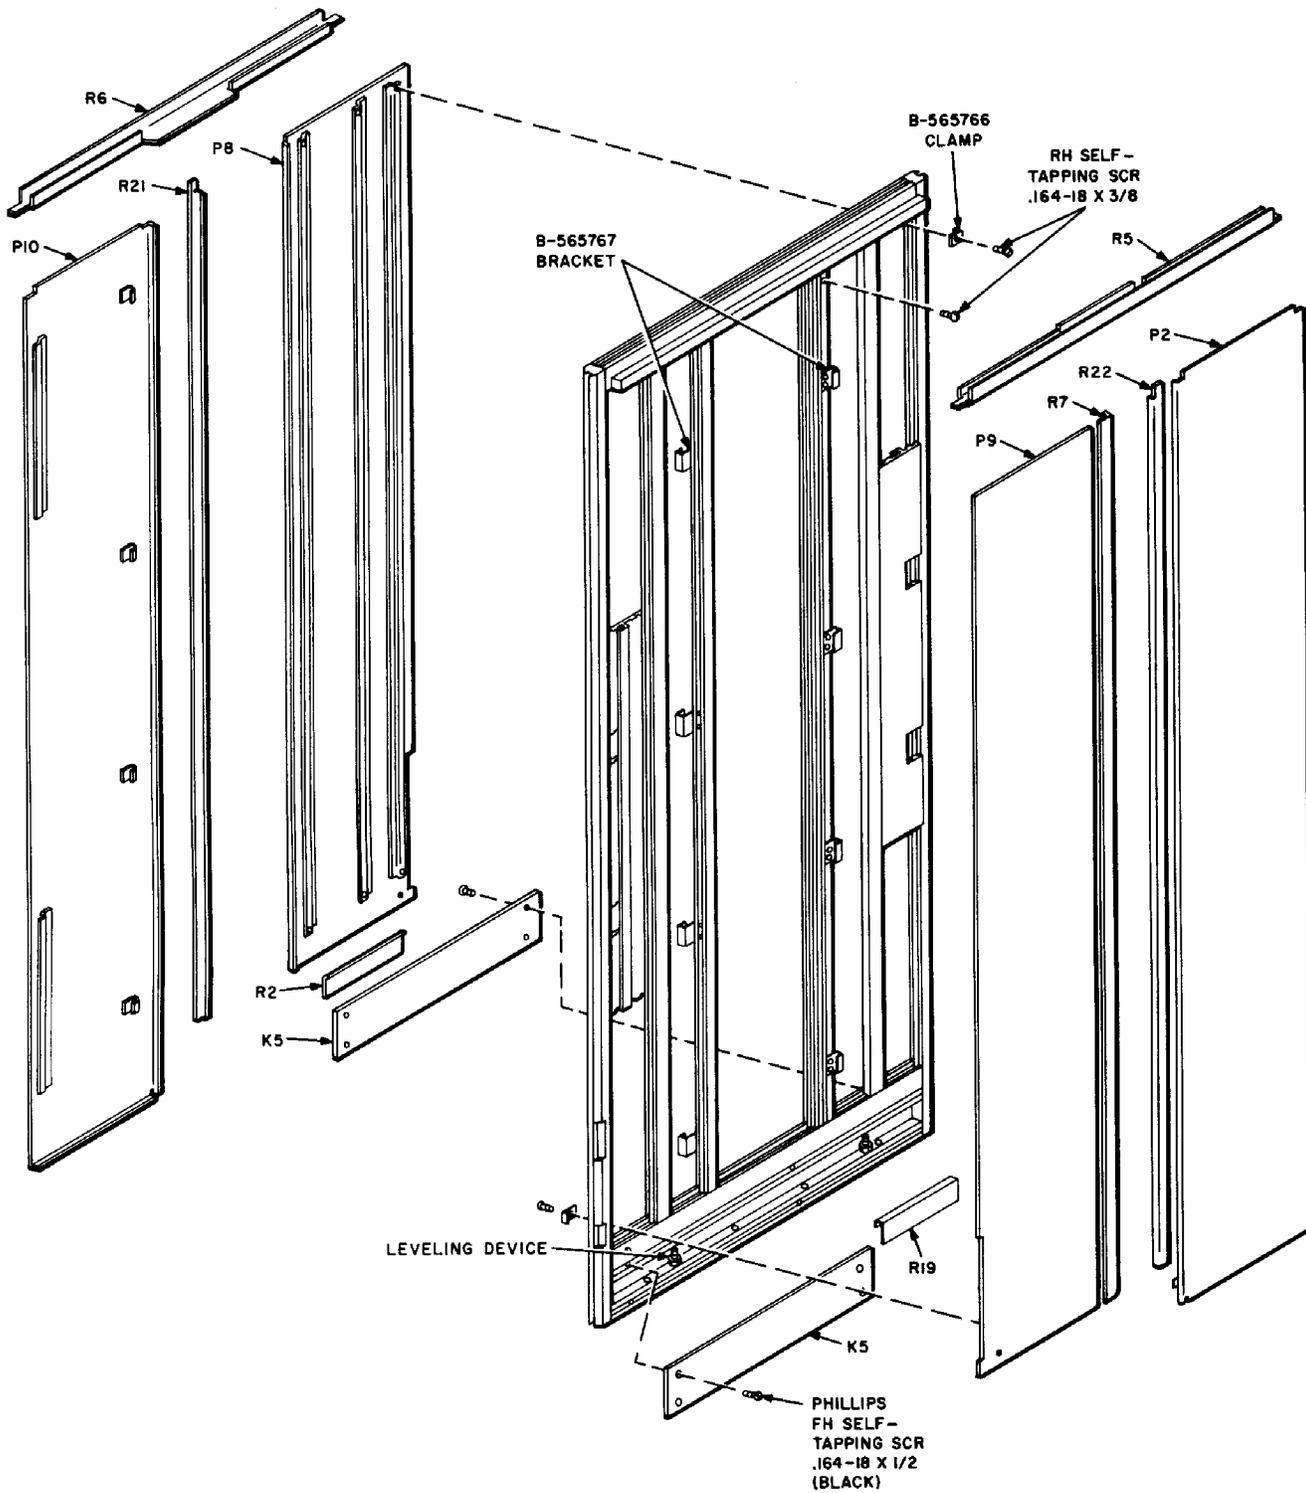

Fig. 27 — F-5 Wall
- (p) Install eight B-565767 brackets on the F-5 wall as shown on Fig. 27 using sixteen .164-18 by 5/16 unpainted Phillips round head self-tapping screws.
- (r) Install P8 and P9 panels (Fig. 27) on F-5 wall using the same procedure as outlined in (q).
- (x) Install P2 and P10 panels (Fig. 27) on F-5 walls (See Fig. 6). Secure P2 and P10 to walls using four .164-18 by 3/8 unpainted Phillips round head self-tapping screws.
- (i) Using B-565766 clamps and .164-18 by 5/16 unpainted Phillips round head self-tapping screws as necessary, install P6 panel (Fig. 16) on each of F-1 walls, P7 panel (Fig. 22) on each of F-4 walls, and P8 and P9 panels (Fig. 27) on each of F-5 walls.